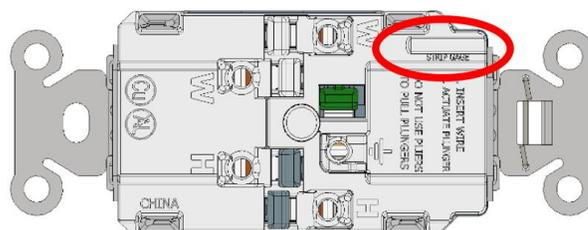

Fig. 5
- Strip conductor according to the strip gage in Fig. 5 (9/16").